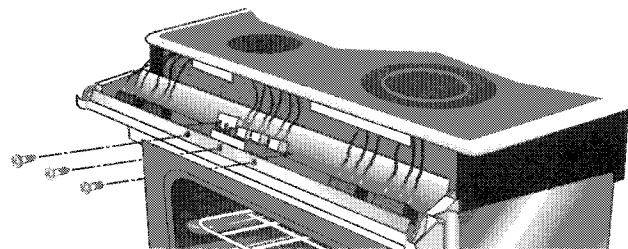

Fig. 13
6. The control panel can now be tilted down into the service position. This will allow access to the surface unit infinite control switches and the electronic oven control board. (Fig. 13)
2. Place the control panel in the service position. (Fig. 13)
4. Remove the three screws securing the electronic oven control to the control panel frame rail. (Fig. 13)